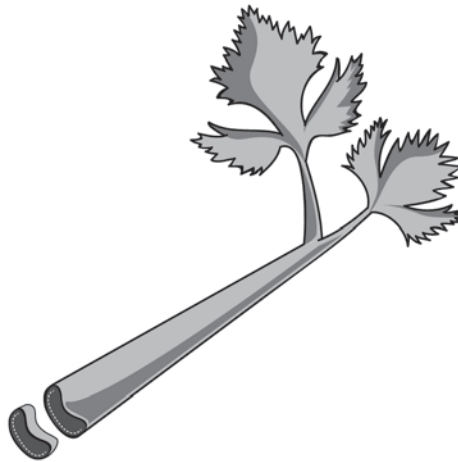

Figure 1
2. Observe the cross section under a magnifying glass. Try to identify the xylem tubes (see Figure 1).